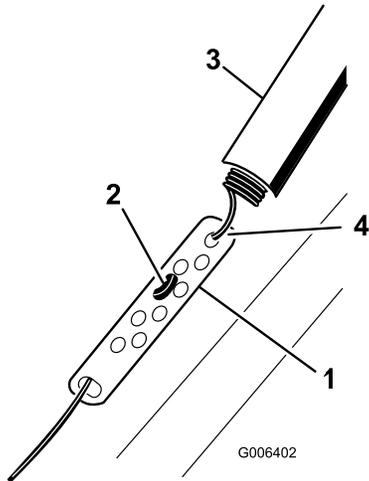

Figure 19
- Slide up the spring cover and unhook the spring from the adjuster link (Figure 19).